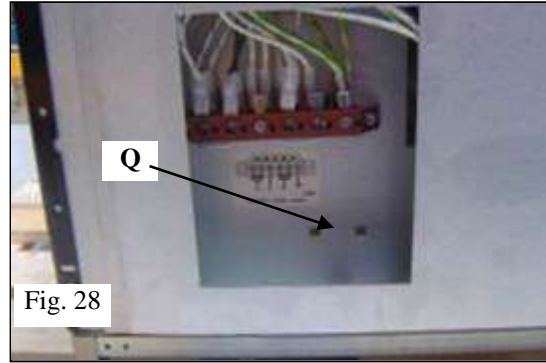

Fig. 28
- Secure the cable by means of cable clamp (no provided), item **Q** (Figure 28).